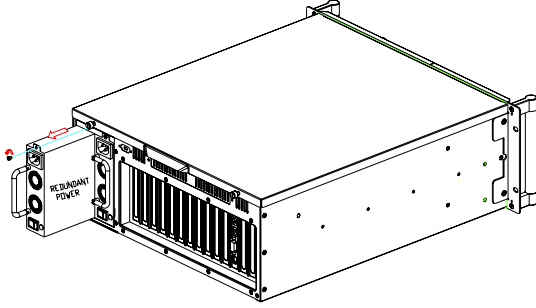

Figure 3.8: Replacing the power supply module
2. Loosen the screw on the failed module and then grab the handle to gently pull it out. (see *Figure 3.8*).